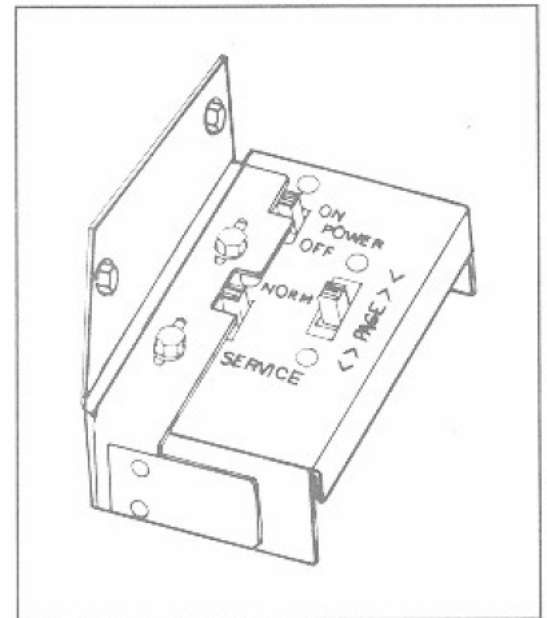

Figure 2-5 Service Switch
7. Repeat steps 4 and 5 until all titles are installed. Use the PAGE switch (*figure 2-5*) to change title rack pages. Insert filler title strips (Part Number 30940601) to fill out any unused space left on a page. Insert these in the same way that you installed the fill-in title strips.
2. Move the SERVICE switch to the SERVICE position, if not already done (refer to figure 2-5).